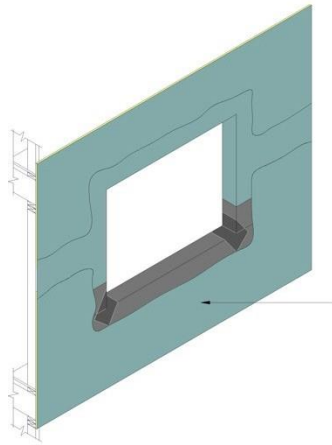

Fig. 12
- Install the specified component (i.e. window, etc.) and associated flashings per manufacturer's directions and contract documents. Then apply Backstop NTX – Texture or Smooth to the remainder of the wall surface as described in Section VI and lap over the previously installed material around openings – Figure 12..